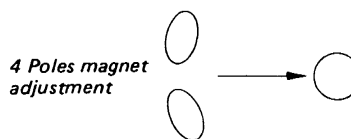

Figure 1-3
- 11) Observe the center of screen and if dots are crooked spot, adjust the above 4 Poles magnet (see page 31) for the round spot as Fig. 1-3.